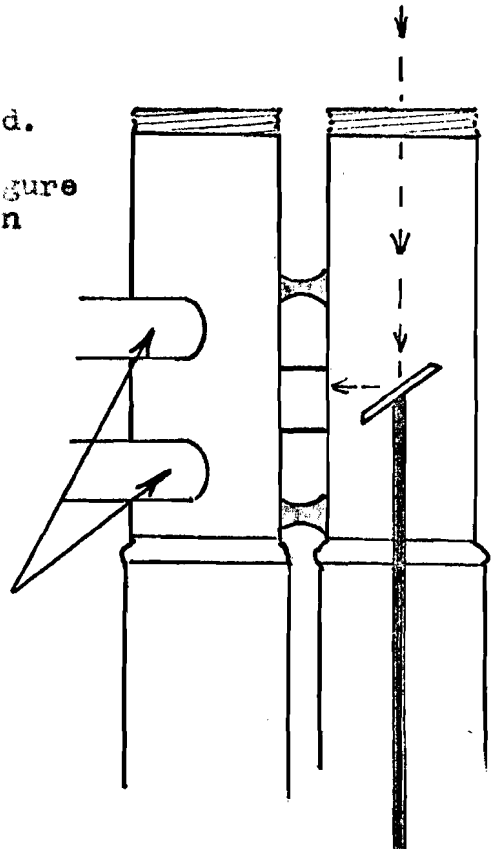

Figure 75
2. Insert the valve mirror (Figure 75) and check the ports in both "down" and "up" positions.